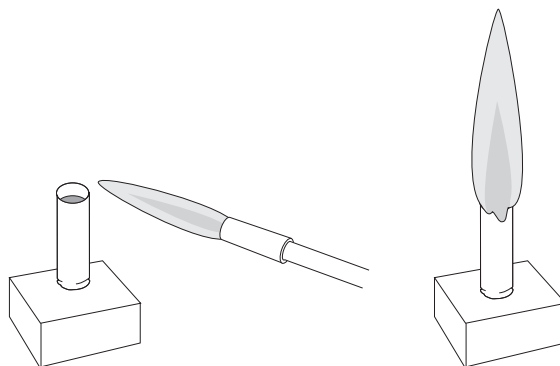

Figure 7: Igniting the lance
3. Using the propane torch, ignite the lance (See Figure 7.)